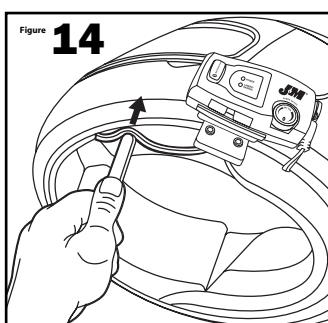

Figure 14
8. Using the included wooden tool, be careful to push the wires into the gap between the helmet liner and shell. **See Figure 14.**